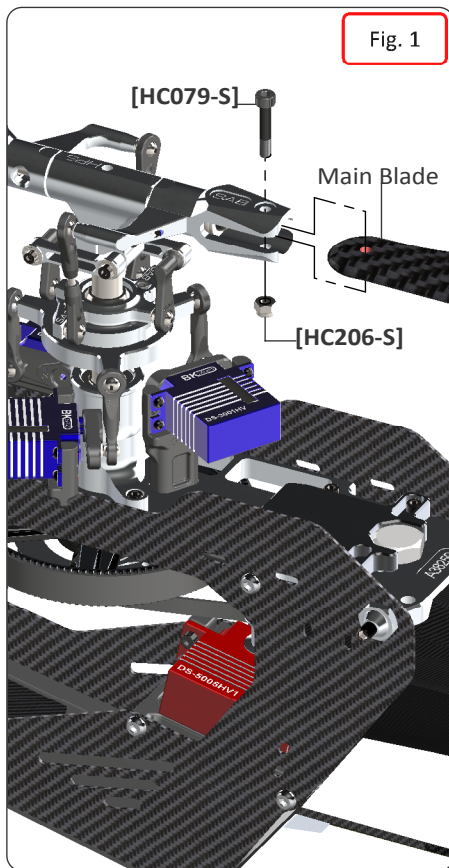
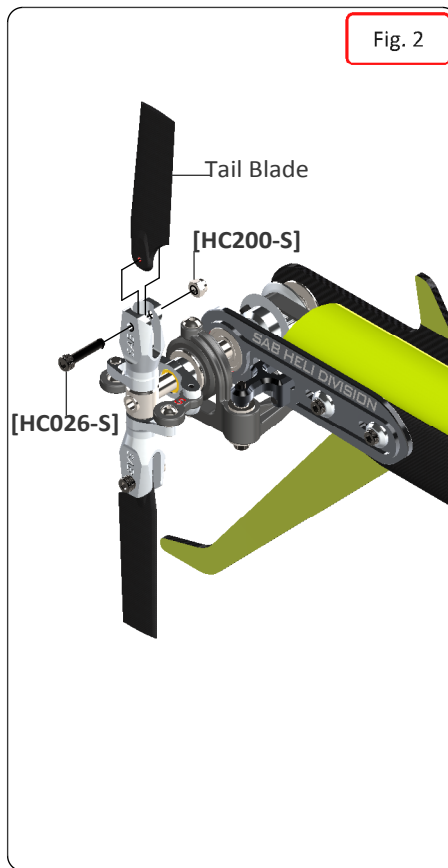

Fig. 1
Fig. 2
Install the battery to the battery tray using double sided tape and the long Velcro straps included (Fig 1 and Fig 2).
The battery wires arranged as in fig 2 are particularly effective.
*Fit the main blades and tail blades. (Fig.1 and Fig.2)